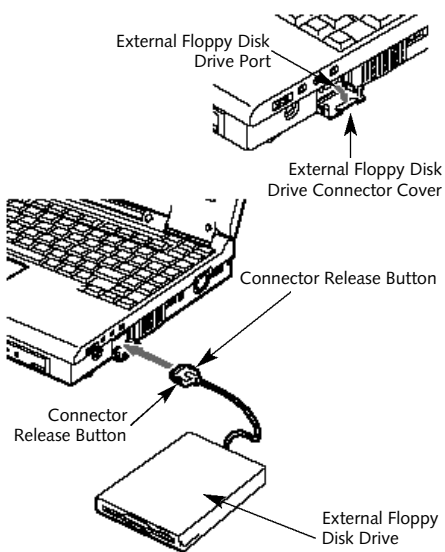

Figure 4-11 External Installation of a Floppy Disk Drive.
3. Open the external floppy disk drive port cover on the right side panel of your notebook (see Figure 4-11), by gently pulling on the left side of the cover and then tilting it down.
4. Align the connector of the external floppy disk drive with the connector towards the body of your notebook with the wide side of the connector up. (Figure 4-11.)
3. Squeeze together firmly on the release buttons on either side of the external floppy disk drive connector next to the body of your notebook. (Figure 4-11.)